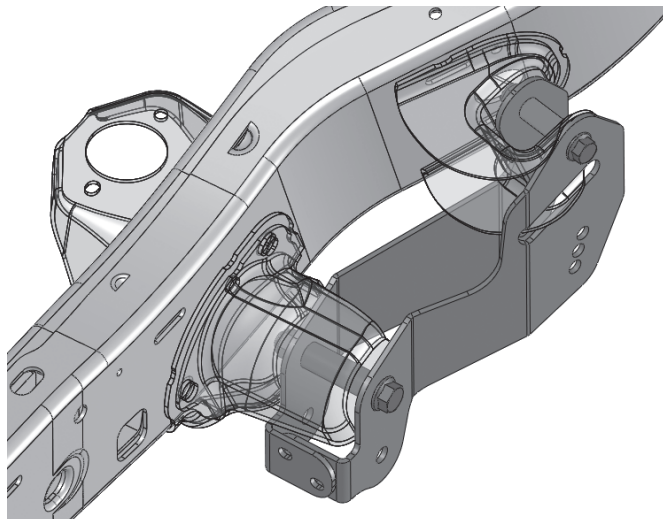

Fig. 1
4. Install the brackets as shown (Figure 1). Use the factory hardware and supplied spacers (which will fill the void for the control arms) in the original control arm mounting locations.